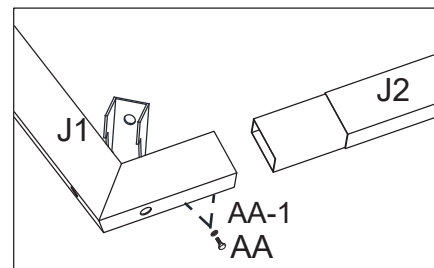

Figure 7-1
7.1. Connect the Top Frame (J1) and Top connecting Tube (J2) with Bolts (AA) and Steel washer (AA-1). See Figure 7-1.